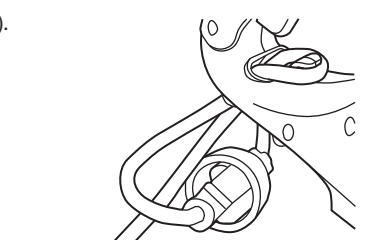

Fig. 2
- Make a narrow loop with the extension cord and push the loop through the cord hole in the rear handle (Fig. 2).
- Move the loop over and onto the cord hook and pull the cord gently to secure the loop into the hook (Fig. 2). This helps prevent accidental disconnection.
2. Remove the loop in the extension cord from the cord hook (Fig. 2).